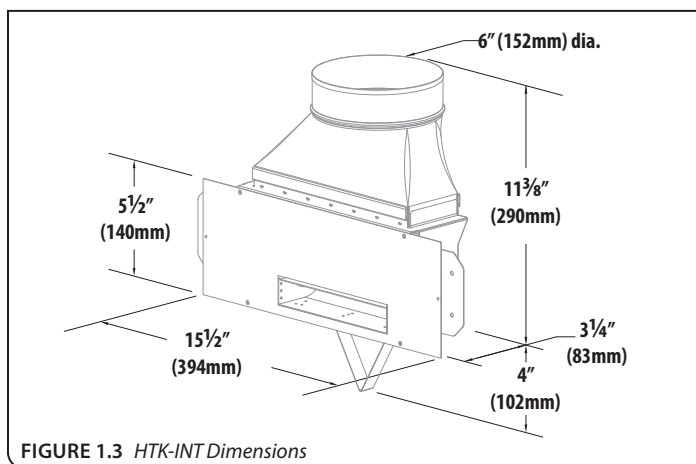

FIGURE 1.3 HTK-INT Dimensions
- FIGURE 1.3 shows the dimension of the air discharge box with the boot attached.